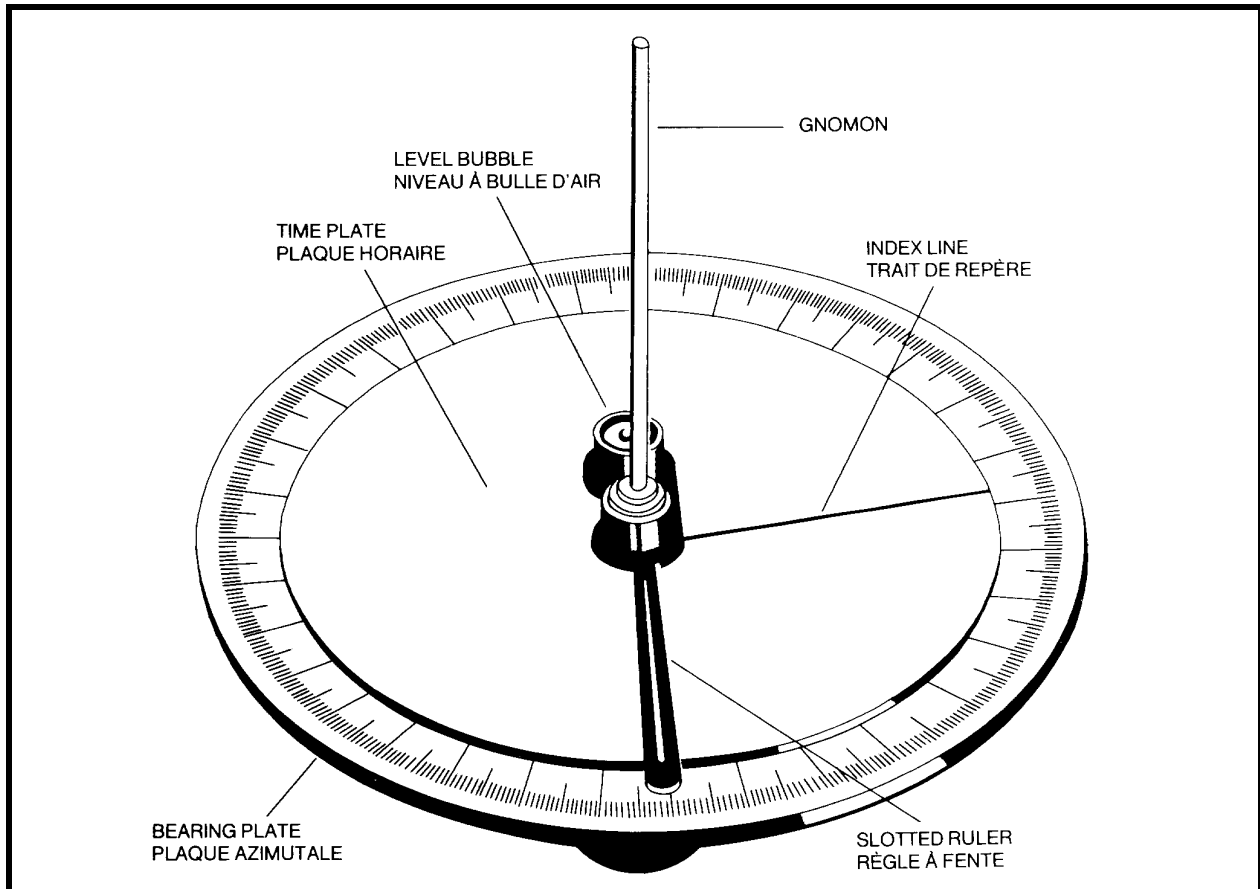

Figure 8-14 Standard Sun Compass
1. A standard sun compass consists of a thin vertical rod (gnomon) mounted centrally in a circular bearing plate on the edge of which is engraved a scale in mils reading anti-clockwise from 0 to 6,400 mils. This plate is fixed on the vehicle so that the direction of travel is along the 0-3200 axis with 0 to the front. A circular time plate is mounted on the centre of the bearing plate, on which it is free to revolve; a radial line on the time plate is marked as an index line. A slotted ruler which is free to revolve over the time plate acts as a shadow guide and can be set at the appropriate time on the time plate. See Figure 8-14.